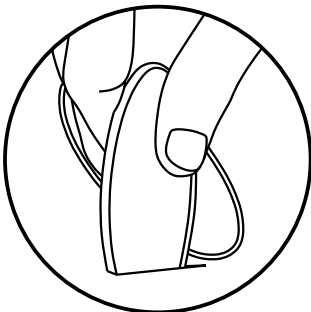

Fig 15 - Place bottom half into tear/split
3. Unscrew the wing nut on the seal and pull the halves apart. Place the bottom half into the tear/split (Fig 15). Take care to make sure the line and the other half are both outside the tear/split.